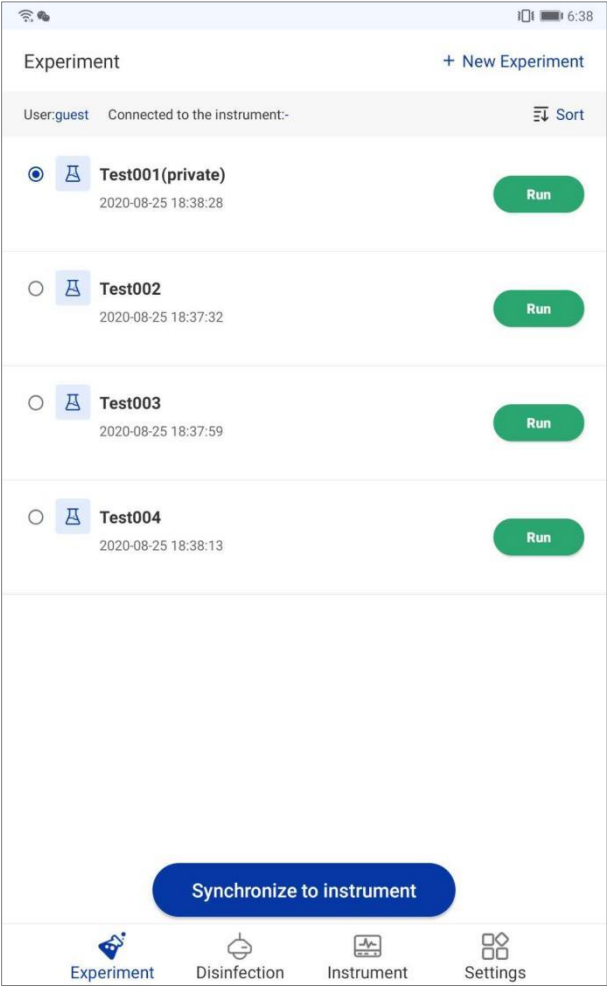

Figure 5-4. Experiment Interface - Synchronize to Instrument
1. **New Experiment:** click < + *New Experiment* > in the upper right corner of the experiment interface, the New experiment interface will pop up automatically, as shown in figure 5-4.
3. **Synchronize to instrument:** long-press any experiment on the experiment interface and click < *Synchronize to instrument* > to synchronize the current experiment from the application software to the instrument system, as shown in figure 5-4.
- 1) Click < **+ New Experiment** > in the upper right corner of the experiment interface, the New experiment interface will pop up automatically, as shown in figure 5-4. For detail operation instructions, please refer to 5.2.1 Experiment Interface – New Experiment.